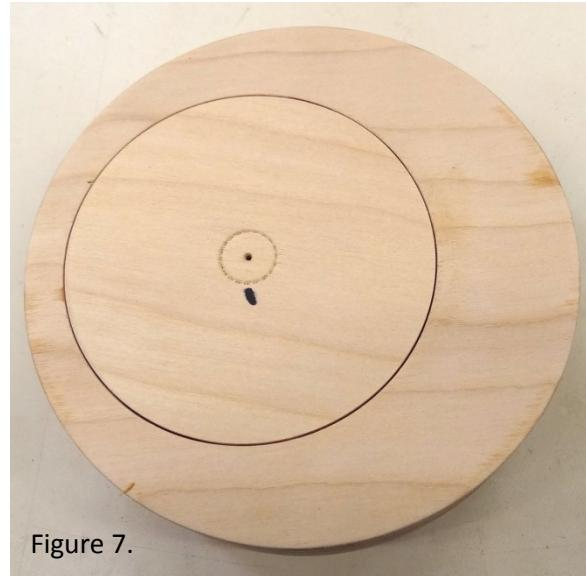

Figure 7.
- Using the third piece of $\frac{3}{4}$ " plywood, cut out a slightly oversize 4" circle on a bandsaw and drill a small hole through the center to mark the center on both sides. Use a drill press or make sure the hole is perfectly perpendicular. Mount the piece between centers using the center hole and saturate the $\frac{3}{4}$ " wide edge of the plywood with thin CA to minimize tear-out. Turn the piece to fit the 4" hole in the offset assembly so that it turns freely, but is not a loose fit. See Figure 7. **This is the inset circle.**